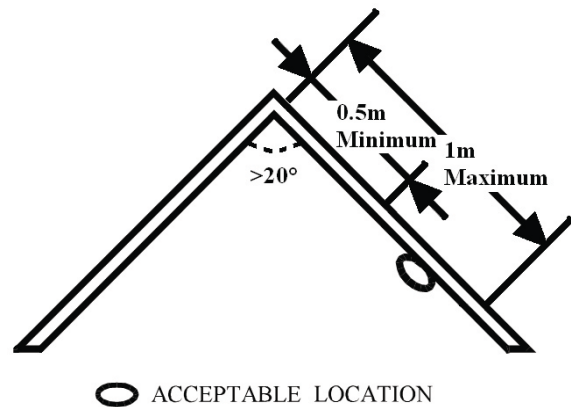

Figure 5 Recommended location to mount smoke detectors in rooms with sloped, gabled, or peaked ceiling
- If some of your rooms have sloped, peaked, or gabled ceilings. The distance between the peak and the mounting point of the smoke detector on peaked ceilings (>20°) is minimum 0.5 m to maximum 1 m measured along the peaked ceiling as shown in Figure 5.